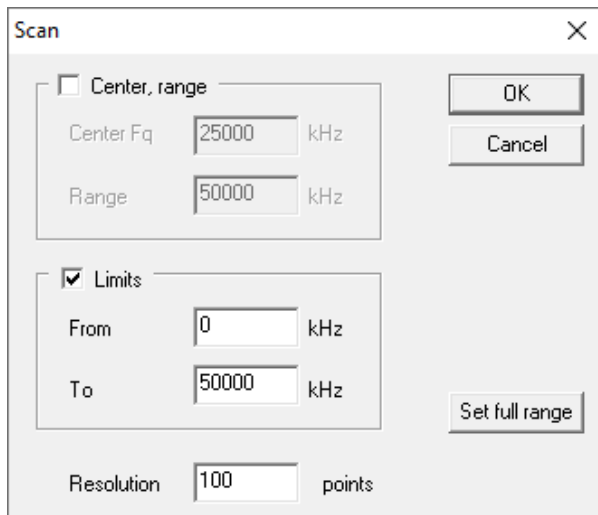

Figure 9-30: Limits scan range
2. Select **Measurement > Range** to configure the resolution and scan range. Select **Limits** and set the limits from 0 to 50,000 kHz. In the Resolution field, type 100 points and click **OK** as shown in Figure 9-30. A measurement will be triggered.